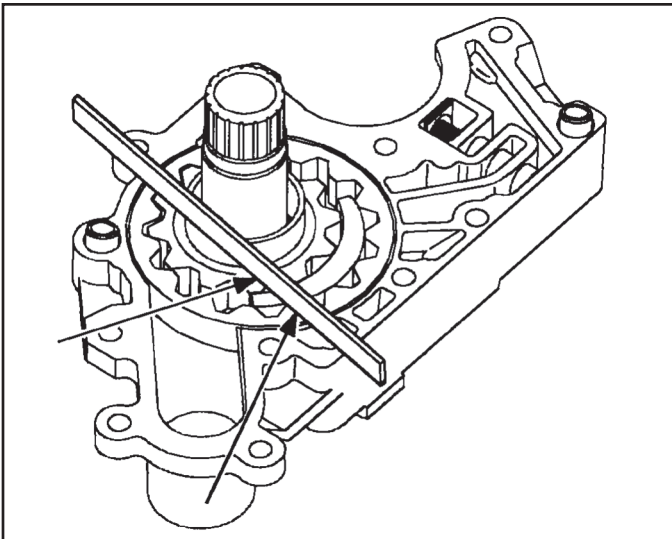

Figure 146
4. Place a straight edge across the pump face and measure both the drive gear face to straight edge clearance and the driven gear face to straight edge clearance (See Figure 146).